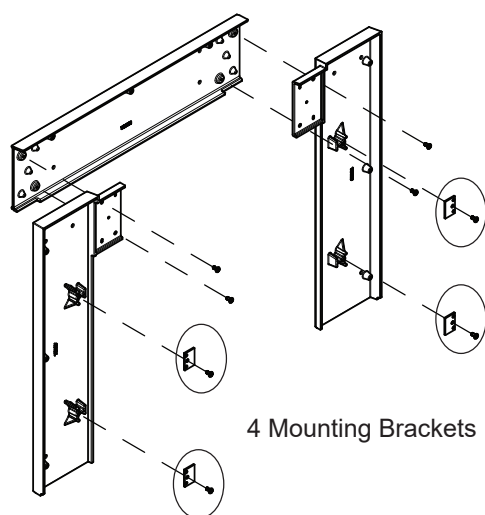

Figure 20.1
4. Attach the mounting brackets to the side pieces included with the kit (**Figure 20.1**).